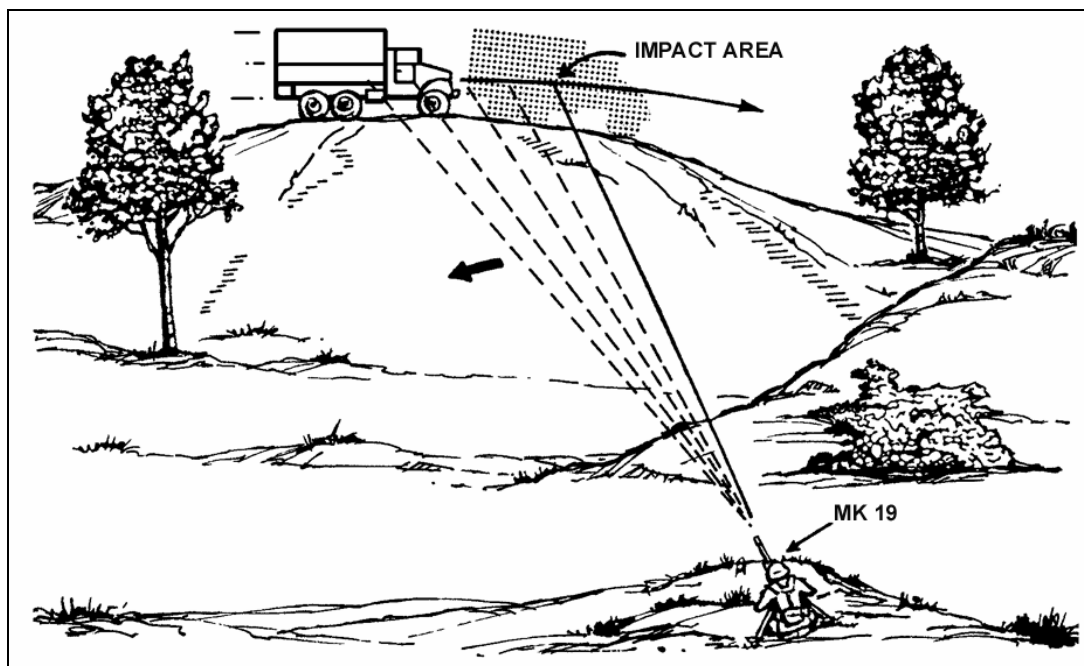

Figure 5-18. Target-trapping method.
f. **Engagement of Moving Targets.** Due to the slow flight of the MK 19 round, it is not practical to engage moving targets using the track-and-lead methods of engaging moving targets. In order to effectively engage moving targets with the MK 19, use the trapping method of engaging targets. The gunner chooses an aiming point forward of the target and on the target path, and presses the trigger before the target comes into the sights. After starting to fire, the gunner moves the MK 19 slowly toward the target. The target moves into the impact area, and is "trapped." The gunner must begin firing before the target is in the sights or in the impact area (Figure 5-18).